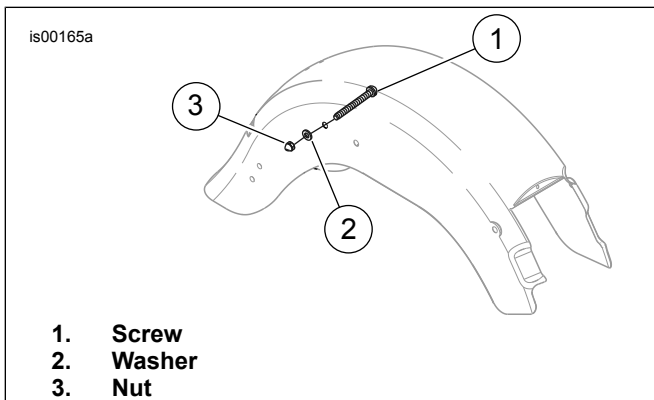

Figure 2. Install Fender Support Hardware (FLST)
- See Figure 2. Install saddlebag using screw (from wide tire kit) (1), washer (2) and nut (3). The screws are installed from inside to outside of fender.